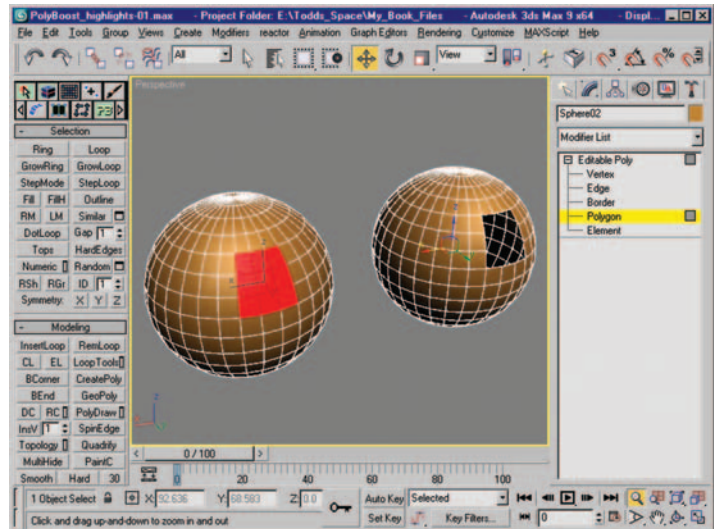

Figure 12.12 Polygon selection before (left) and after deleting (right).
14. Select the nine polygons seen in Figure 12.12 (left) and delete them. Figure 12.12 (right) shows the end result after deleting.